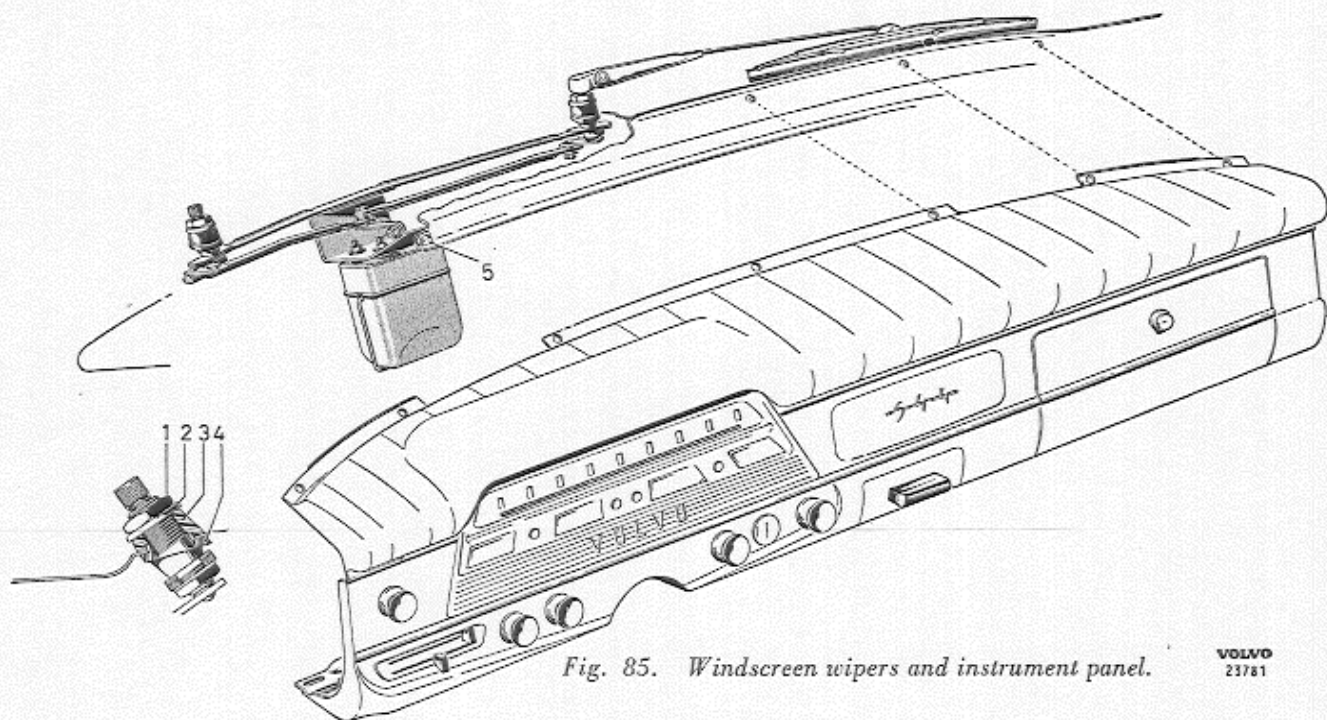

Fig. 85. Windscreen wipers and instrument panel.
2. Remove the nut (1, Fig. 85) for the bearing and lift off the washer (2) and seal (3).
4. Unscrew the screw (5, Fig. 85) which holds the wiper mechanism to the body. This is accessible from the underside of the instrument panel.